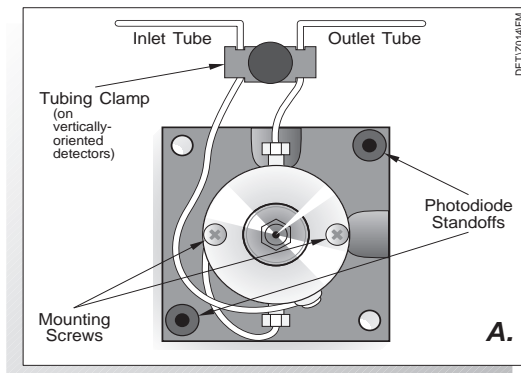
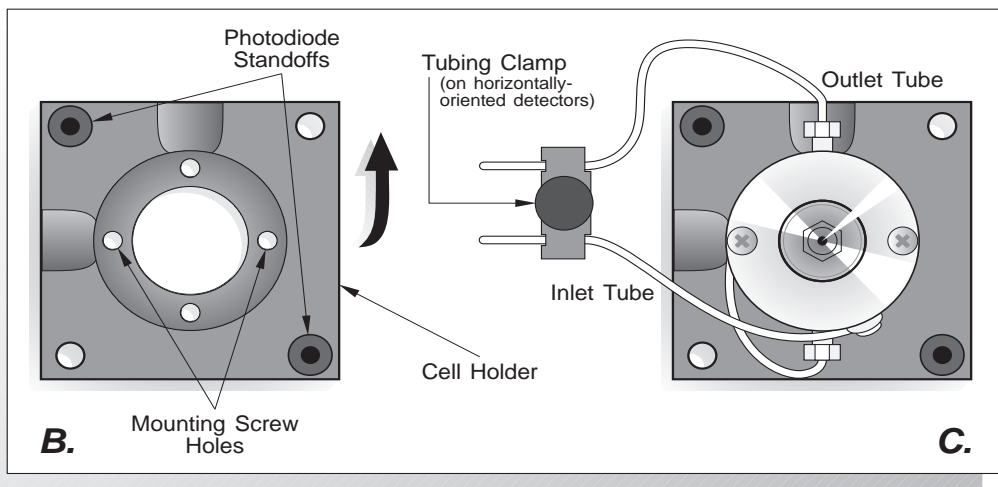

Figure 6 Alignment of vertically-oriented flowcells
Figure 7 Changing the Alignment of a Vertically-Oriented Flowcell
The flowcell shipped with your ProStar 345 detector is properly oriented on its black-anodized backing plate. However, should you subsequently order one or more additional cells to enhance the versatility of your instrument, the cell(s) you receive may be configured for vertically-oriented applications. As shown in Figure 6, this orientation is characterized by the photodiode standoffs being positioned at the upper right and lower left corners of the flowcell assembly and the tapered cut-away areas being positioned at the top and the right of the assembly.
Figure 7 shows the vertically-oriented flowcell as shipped. Note the vertical orientation of the flowcell inlet and outlet connections relative to the photodiode standoffs and the tapered cut-aways at the top and right of the cell holder.
NOTE: Figure 6 and Figure 7 show the tubing clamp as an aid to the proper positioning of the inlet and outlet tubes. The tubing clamp is actually mounted on the detector and is not part of the flowcell assembly. To ensure proper alignment, always hold the cell holder and flowcell in the orientation shown in the illustrations.
2. Maintaining the flowcell in the vertical position shown in Figure 6 and Figure 7, rotate the black cell-holder 90° clockwise. Don't rotate the flowcell body itself. Part B of Figure 7 shows the cell holder in its new horizontally-oriented position. Note, in particular, the new position of the photodiode standoffs and the tapered cut-aways.
4. Bend the inlet and outlet tubes gently as shown in Part C of Figure 7. The inlet tube (wound around the cell body) should always enter at the bottom of the flowcell; the outlet tube should always exit at the top of the flowcell.